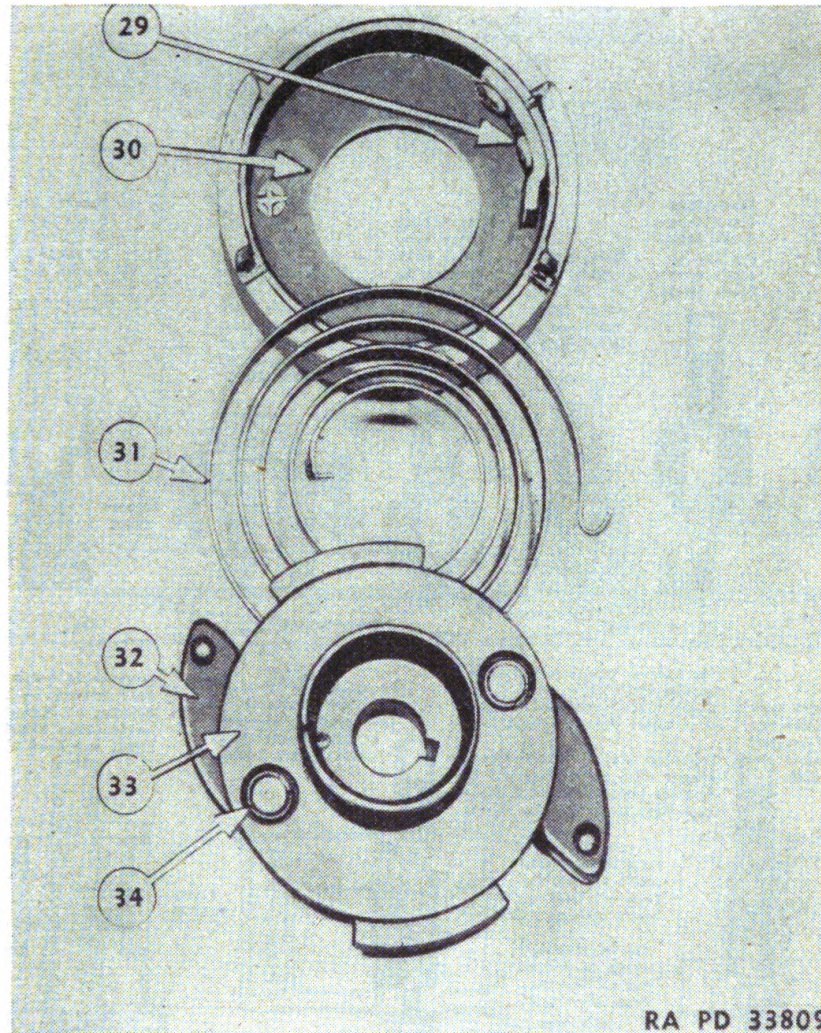

FIGURE 94.—Compression spring assembly.
b. The catch plate (27) can be removed by taking out screws (28). It should be replaced if the pawl engagement edge (24) is rough or worn. When replacing the catch plate, stake the screws securely.
c. The compression spring (31) (fig. 94) may be pried out of the flange (33) with a screw driver.
d. To replace pawls (32), rest the edges of the flange across a vise and drive out the pawls with a center punch. Use the blunt end of a center punch to spread snap ring (34) into place on the stud of a new pawl.